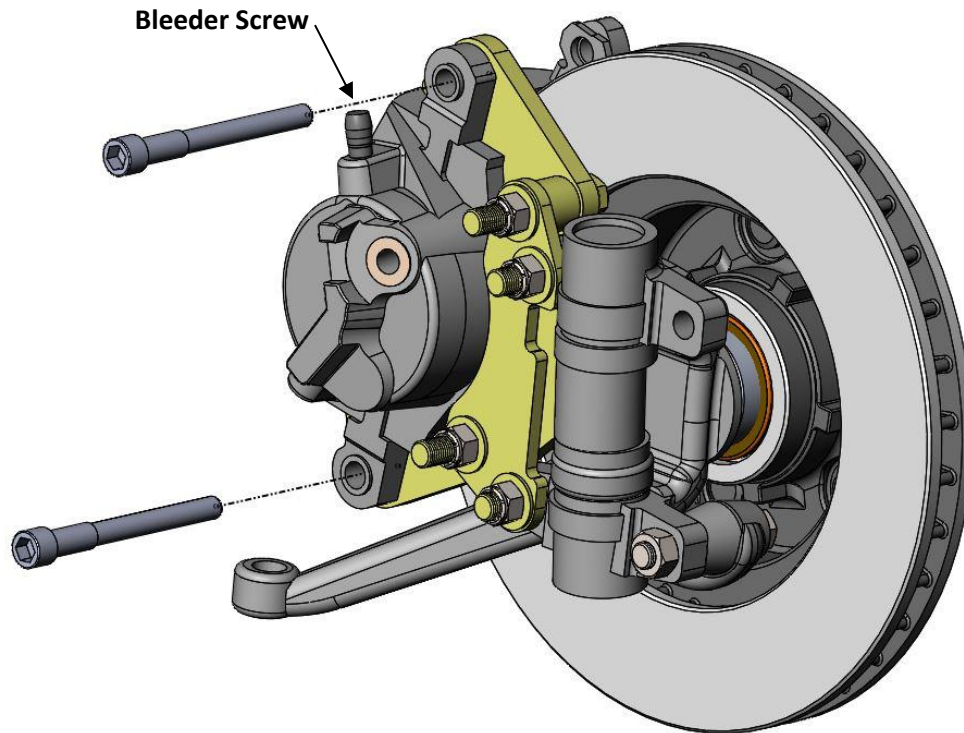

Figure 8 – Caliper Bolt Installation (Driver Side Shown)
12. Mount the caliper to the caliper mounting bracket. With the pads installed in the caliper, slide the caliper over the rotor and line up the mounting ears of the caliper with the holes in the caliper mounting bracket. Tighten and torque the bolts to 45 ft/lbs. **NOTE:** When installing the calipers, make sure the brake bleeders are pointing upward. See Figure 8 below for reference.